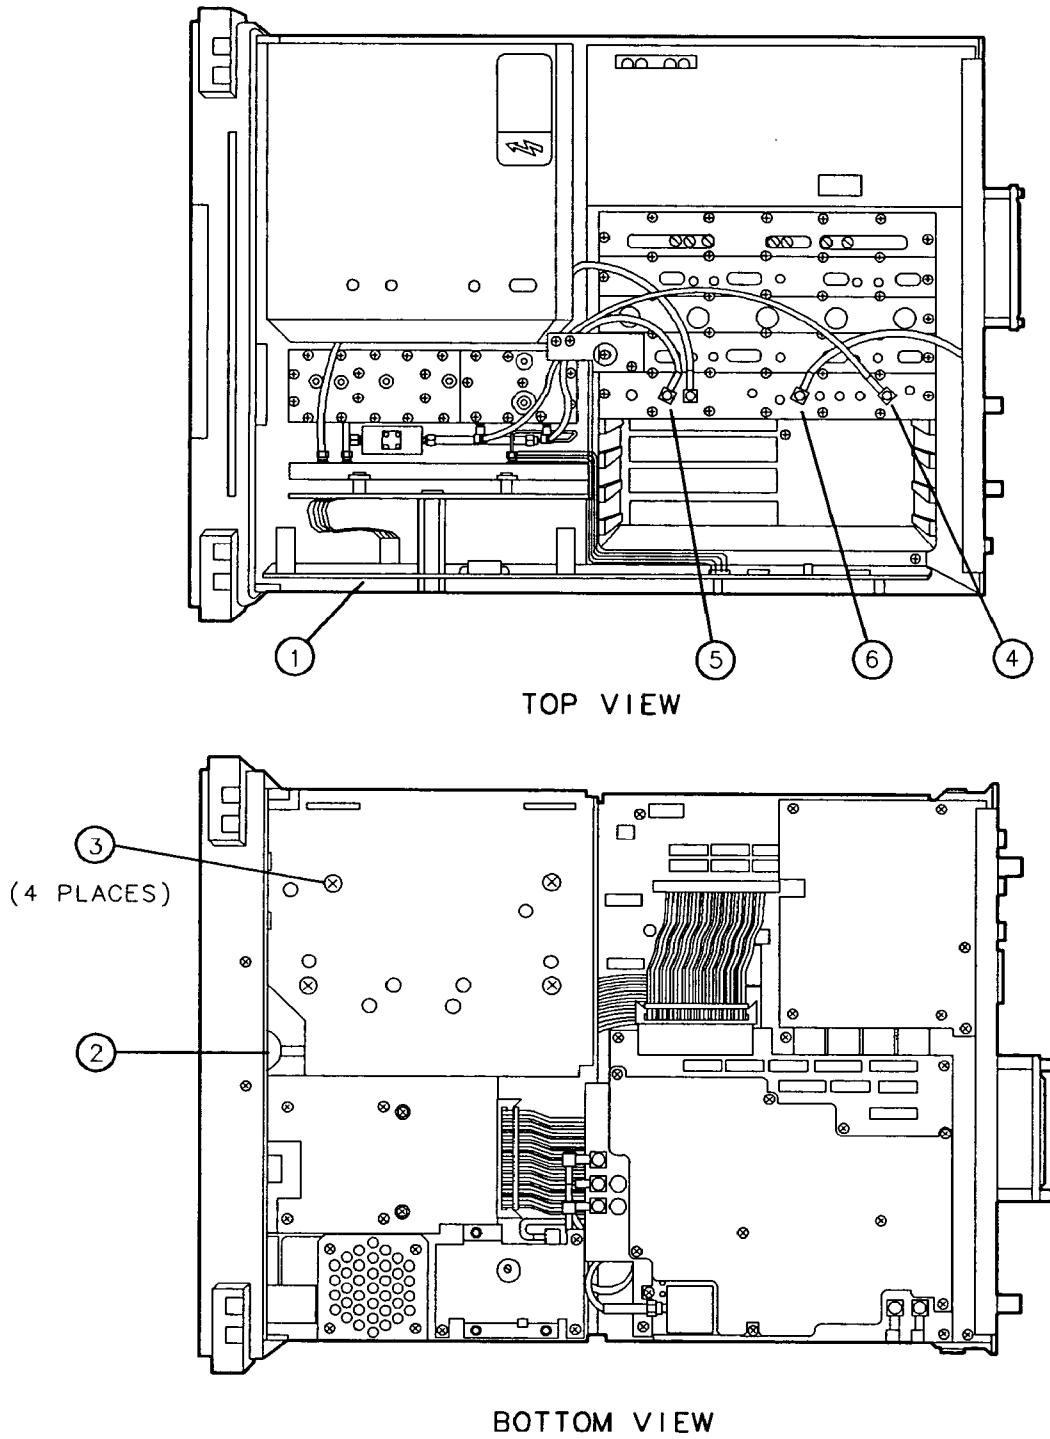

Figure 3-5. Front-End Assembly Replacement
2. Remove the A7 Analog Interface Board Assembly (1) by disconnecting W12 and W13. See Figure 3-5.
4. Disconnect the W10 semirigid cable (2) from the INPUT 50Ω (*Option 001*: INPUT 75Ω).
5. Remove the four screws (3) securing the front-end assembly to the chassis.
6. Disconnect the W9 cable (4) from A9J4, the 321.4 MHz INPUT.
7. Disconnect the W8 cable (5) from A9J5, the 600 MHz OUT.
8. Disconnect the W21 cable (6) from A9J3, the CNTR LOCK OUT.